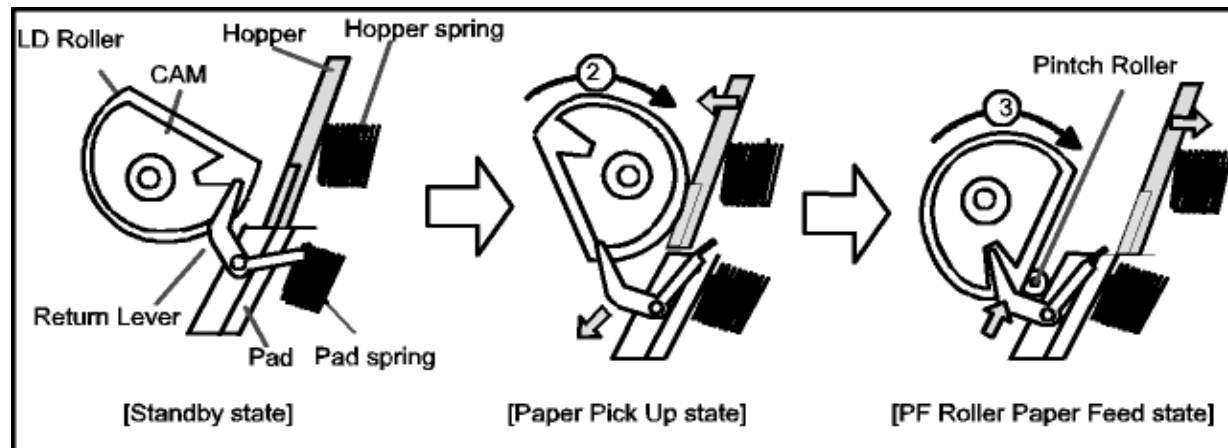

Figure 2-9. Multiple Paper Loading Prevention Mechanism (right side view)
1. When the printer power is turned on, the ASF/Pump motor rotates counterclockwise to detect ASF home position. Then the motor rotates clockwise specified steps to set the LD roller and paper return lever to their proper positions. (See "Standby State" in Figure 2-9.)
2. When the paper loading signal is sent from the PC or the Load/Eject button is pressed, the PF motor turns counterclockwise to let the LD roller load paper. (See "Paper Pick Up State" in Figure 2-9.)
3. Due to the design of the ASF, the LD roller loses friction on the paper and stops at the point where the paper is fed by the PF roller. (See "PF Roller Paper Feed State" in Figure 2-9.)
4. When the next print signal is sent or the Load/Eject button is again pressed, the PF motor rotates clockwise a specified number of steps to set the LD roller and the paper return lever in place. (See "Standby State" in Figure 2-9.)